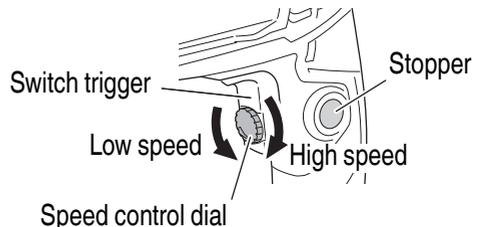

Fig. 8
- The desired rotation speed can be pre-selected with the speed control dial. Turn the speed control dial clockwise for higher speed and counterclockwise for lower speed. (**Fig. 8**)